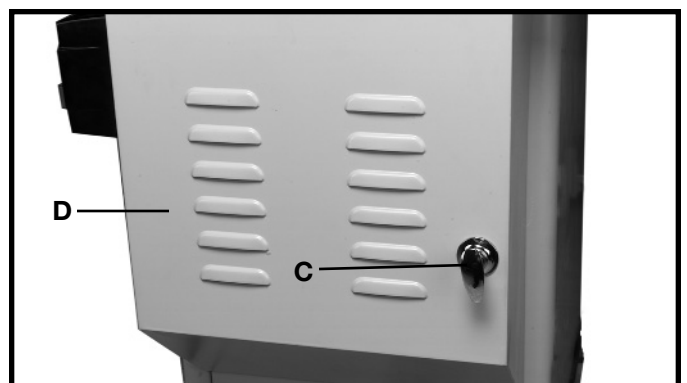

Fig. 27
3. Turn handle (C) Fig. 27 clockwise, and close motor cover (D).
4. Turn handle (C) Fig. 27 counterclockwise to lock motor cover with cabinet.